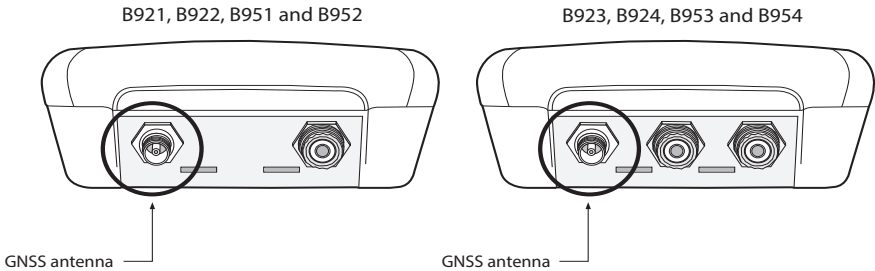

Figure 9 Position of the GNSS antenna connector
- Connect the cable from the GNSS antenna to the GNSS connector on the AIS transceiver as shown in Figure 9.